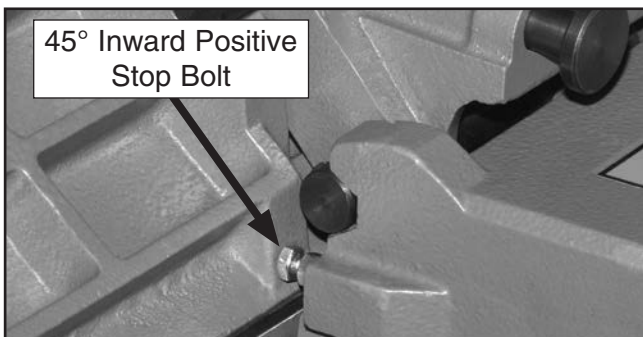

Figure 64. 45° inward positive stop bolt.
3. Loosen jam nut on 45° inward stop bolt shown in **Figure 64**.